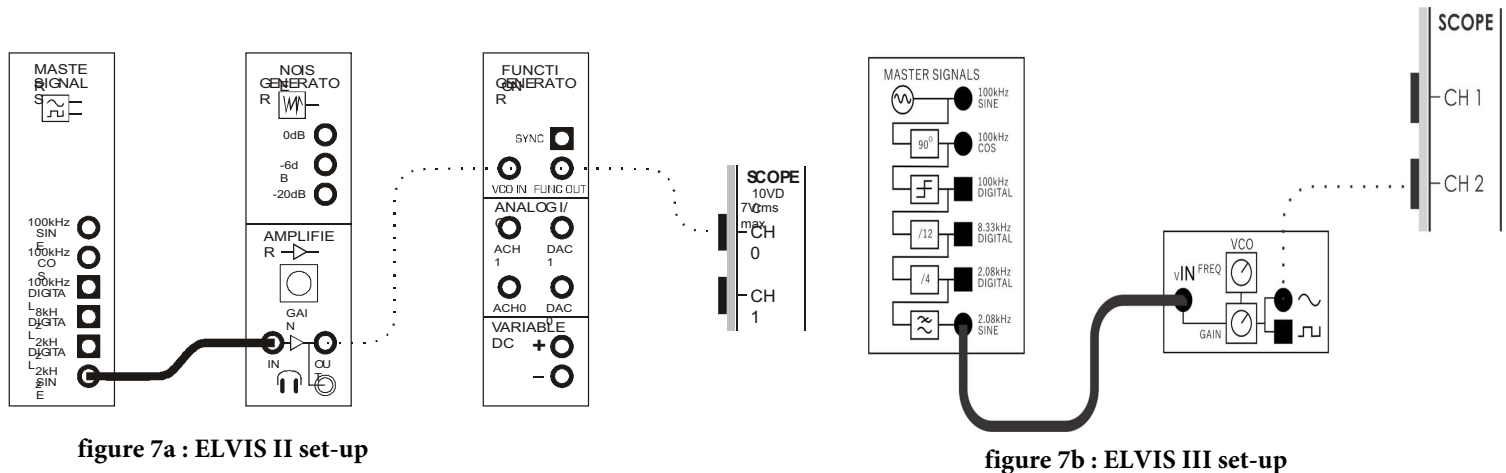

Figure 7
32. Disconnect the plug to the *GND* socket and modify the set-up as shown in Figure 7 below.